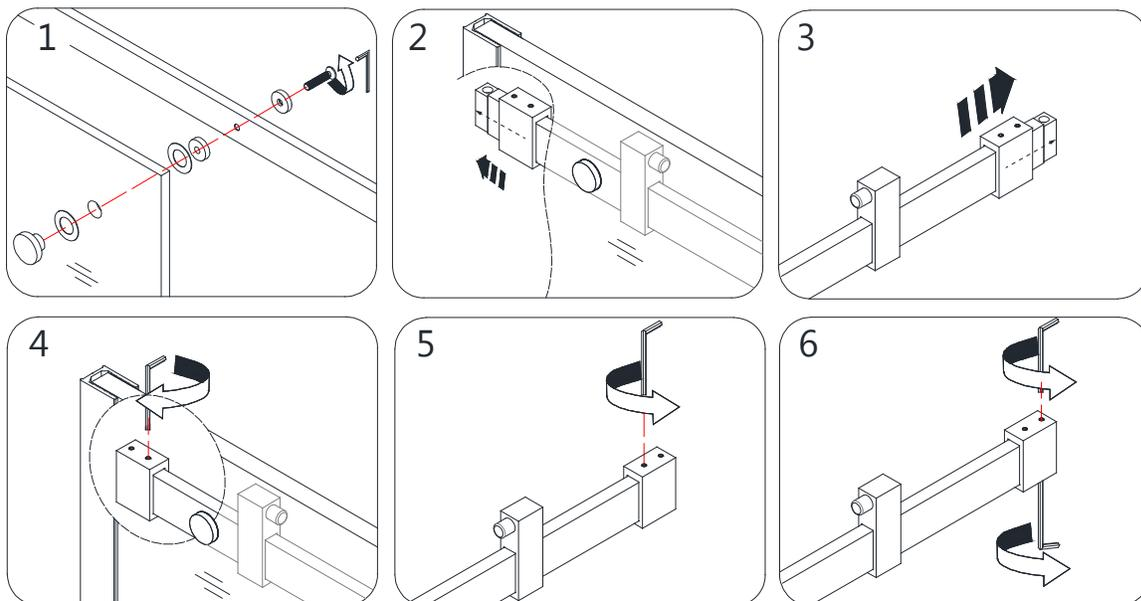

Fig 20
20. Re-attach the **Guide Rail (#04)** to the **Stationary Glass (#02)** and attach the **Guide Rail Brackets (#06)**. (Fig 20)